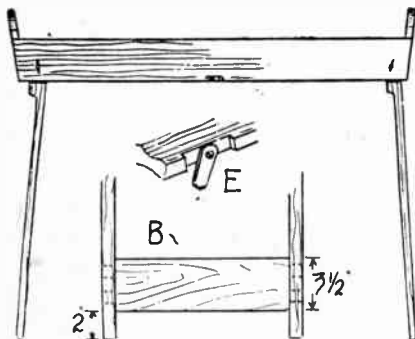

Fig. 1—Side view and details of fixing
The legs are cut to length and the ends trimmed to semi-circles, with  $\frac{1}{2}$  in. radius. Holes for the fixing screws are bored in the centres of the semi-circles. These legs are fixed to the sides, inside of course, at the place indicated at (C) in Fig. 3, so they, when pulled down, splay out slightly. Note particularly that the cut-away parts of each leg face the same way, and are not paired. This will be apparent in Fig. 1. Fit the left side legs first, then the correct way to fit the right ones will be seen at once. Any error here will simply result in the legs not folding together properly.
This rail is shown in the inset sketch (B) in Fig. 1. Cut the rails from  $\frac{1}{2}$  in. or  $\frac{3}{4}$  in. wood, to the correct length, measured between the sides of tray, underneath. The ends are cut to form tenons, 1 in. long and  $\frac{3}{4}$  in. apart, and the legs mortised to suit. Glue the rails in and refit the legs to the tray. This completes the job, except finishing.
To keep the legs up after folding, a half button can be employed, as at detail (E) (Fig. 1). These are screwed to the under edges of the tray sides, underneath, of course, and in the centre. A slot should be cut for each, just deep enough to sink the half-button level, and allow the tray to stand firm.